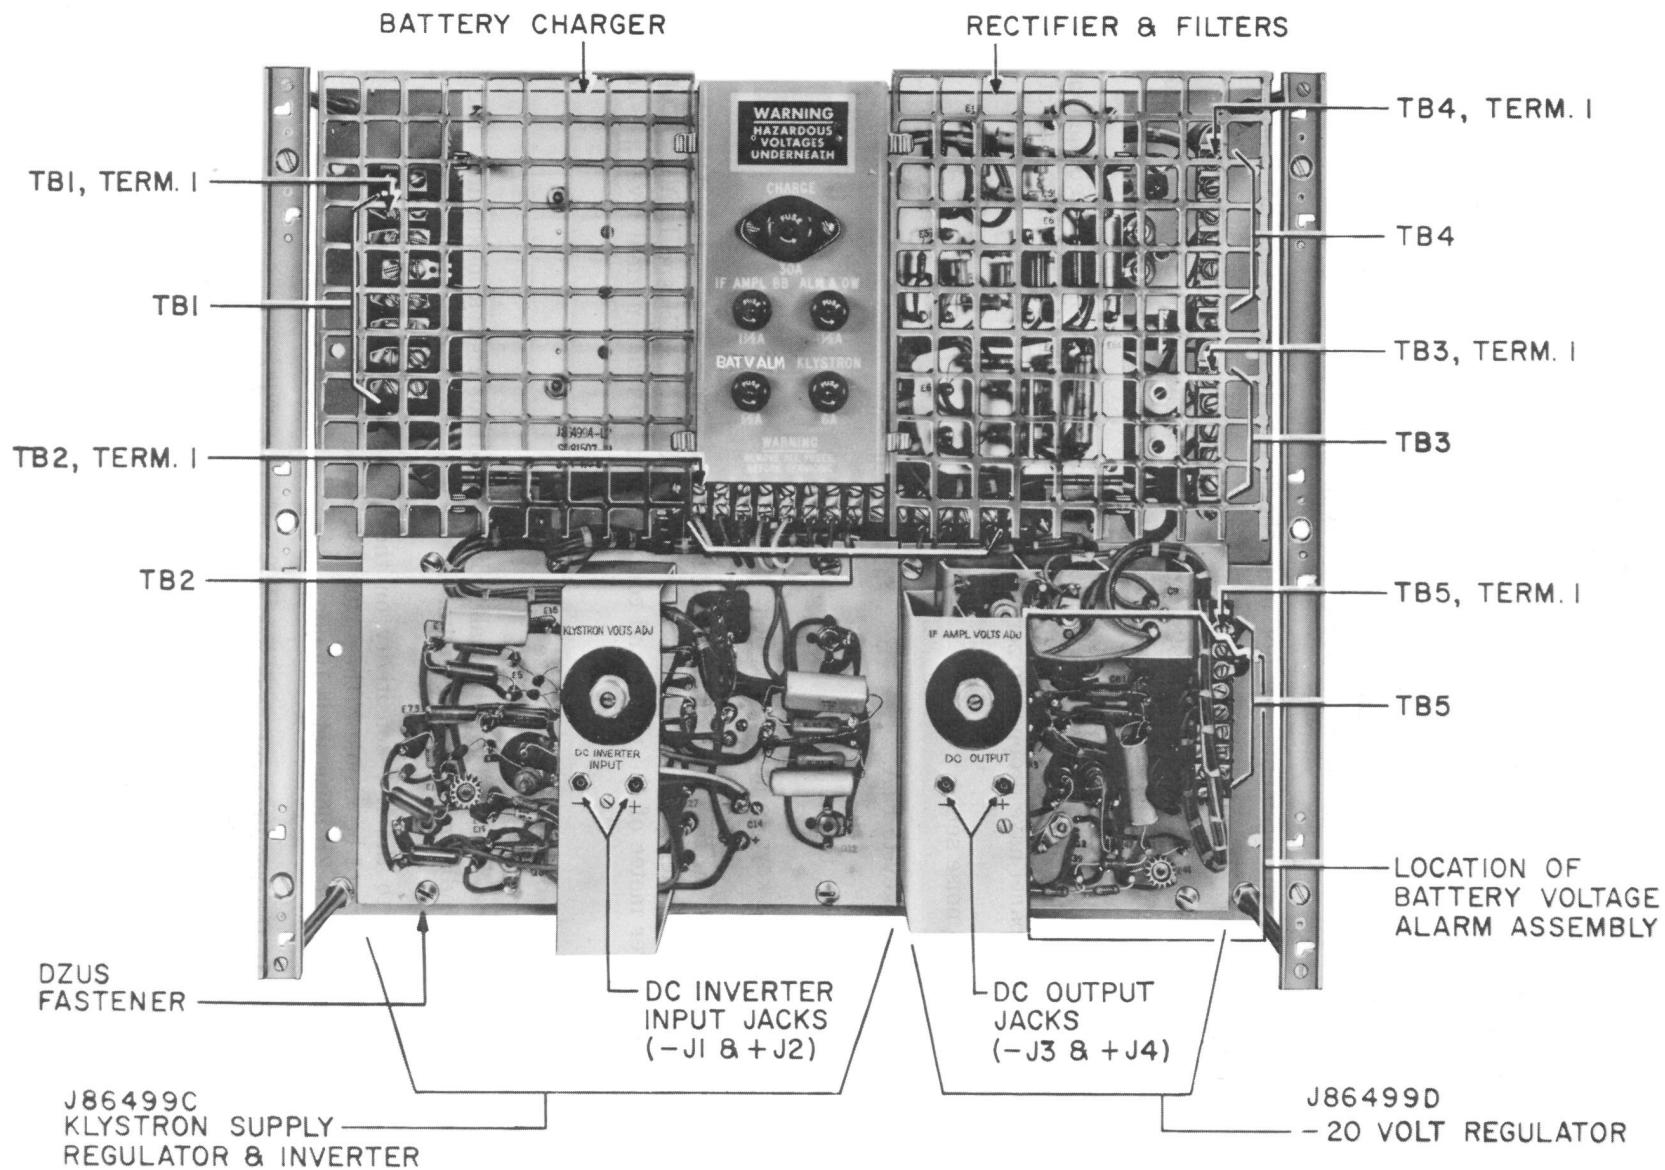

Fig. 1—J86499A Power Supply—Cover Removed
8 Remove the equipment from service in accordance with Section 409-308-500, Fig. 1.
11 Connect the 931 Weston dc voltmeter across terminals 4 and 5 of terminal strip TB3 (see Fig. 1). Terminal 4 should be connected to the negative post of the meter.
If the requirement is not met, adjust the KLYSTRON VOLTS ADJ potentiometer (see Fig. 1) to bring the voltage to -10.5 volts.
- 17 Restore equipment to service in accordance with Section 409-308-500, Fig. 1.
The following test describes how to check the J86499E battery voltage alarm unit. This test will be done on a routine basis or when the battery voltage alarm unit has to be replaced. It shall be ascertained before making this test that the battery is fully charged as indicated by a reading of  $27.6 \pm 1$  volts on the meter and control panel when the meter selector switch is on BAT. This J86499E subassembly is mounted on the J86499D -20 volt regulator as shown in Fig. 1.
- 44 Remove the equipment from service in accordance with Section 409-308-500, Fig. 1.
62	Restore equipment to service in accordance with Section 409-308-500, Fig. 1.